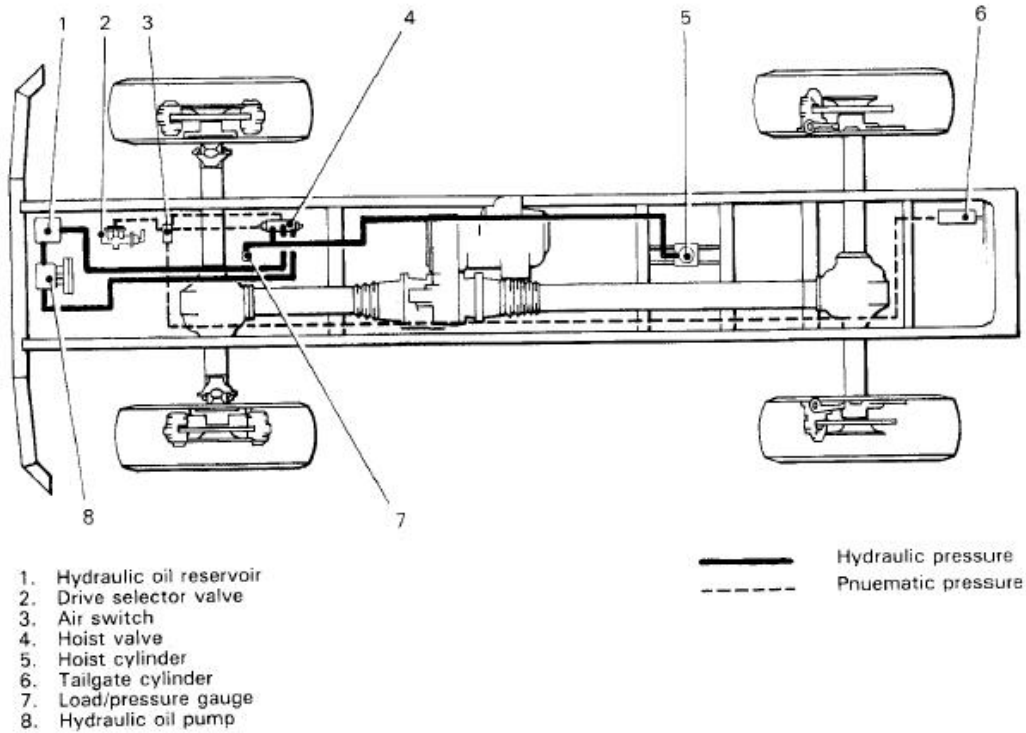

Figure 1 Dump System Interconnection
- 4. The dump system interconnections, shown in Figure 1 contain the following components: